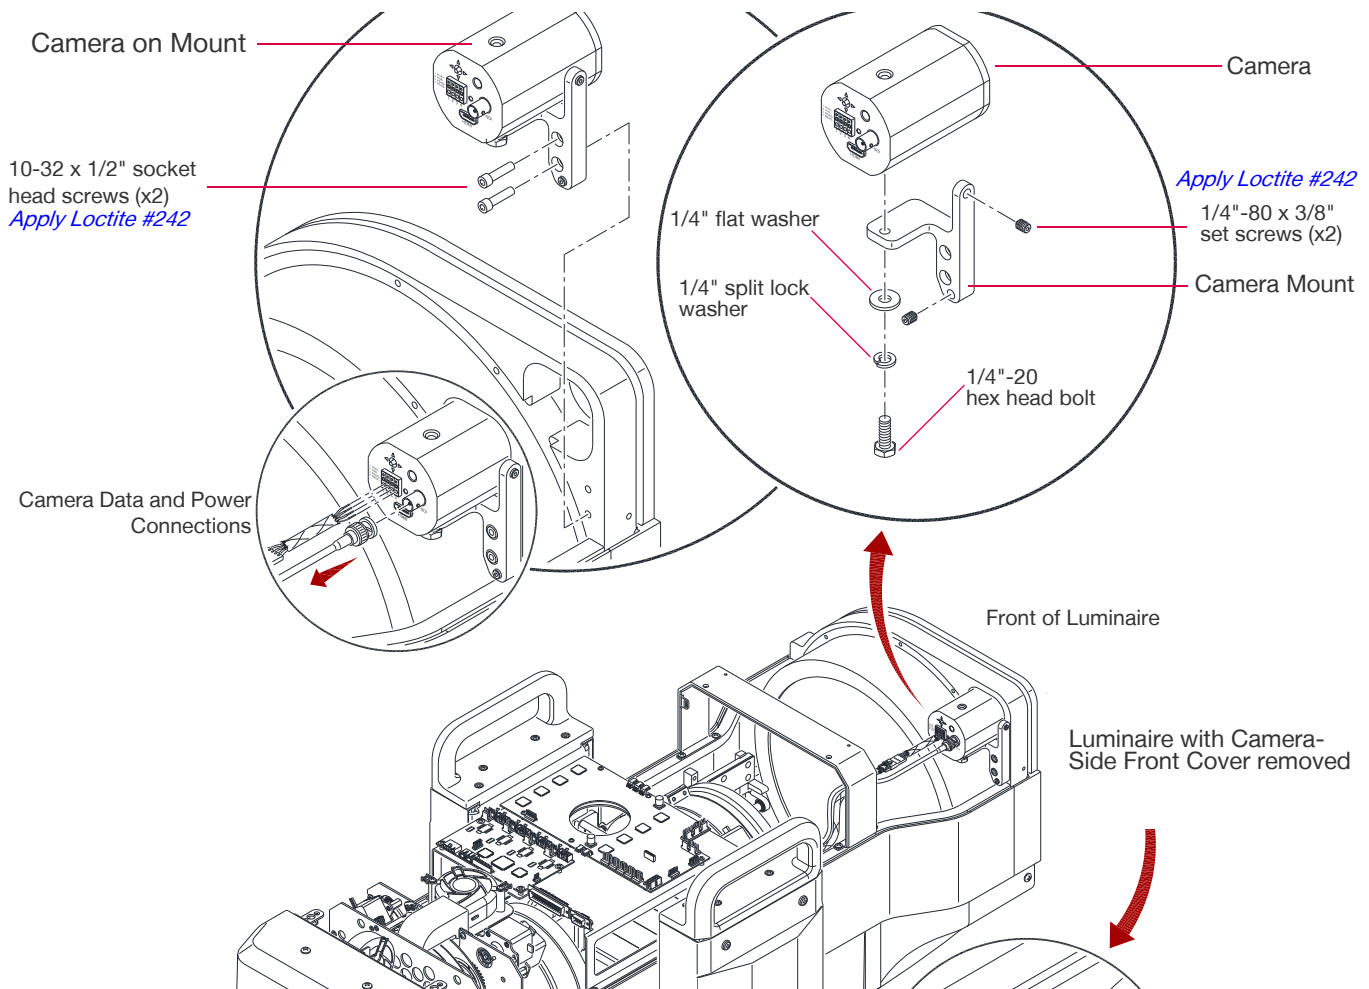

Figure 3-20: Removing the GCLT Camera and Mount
(**Figure 3-20**)
- Step 6. Reinstall the camera mount to the camera, then reinstall the camera. **(Figure 3-20)**.